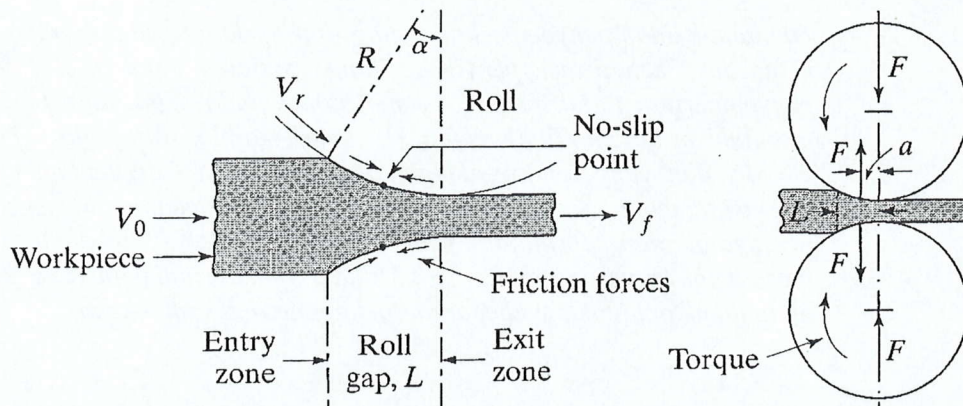

Figure 4/Gambarajah 4
3. **Figure 4** shows a schematic illustration of friction forces, the roll force (F), and the torque acting on strip surfaces of the flat-rolling process.
- (d) Show that the maximum angle α (known as the angle of acceptance-**Figure 4**) at which a plate can be pulled into the roll gap is equal to $\tan^{-1} \mu$, where μ is the coefficient of friction.